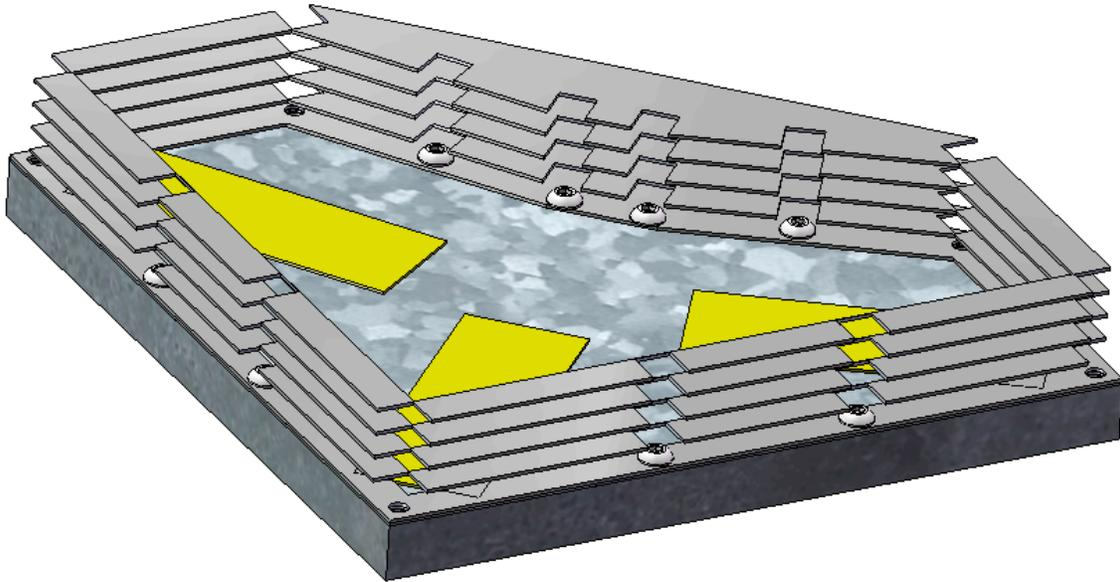

Figure 3-11: Four layers of Vibrablock stacked on top of each other.
- 9) Peel off protective backing from Vibrablock and stack each layer on top of each other, placing the first on top of the Vibrablock washer layer in step 4). See Figure 3-11.